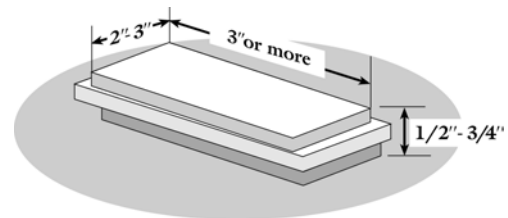

Figure 1
- A. Locate two Wood Blocks whose dimensions will raise the Wardrobe Door (#1) 1/2 - 3/4 off the floor surface or carpet (See Figure 1). It will also be helpful to have on hand a few thin wood strips or “shims” in case you need to adjust the height and alignment of the Wardrobe Door (#1) as you go.